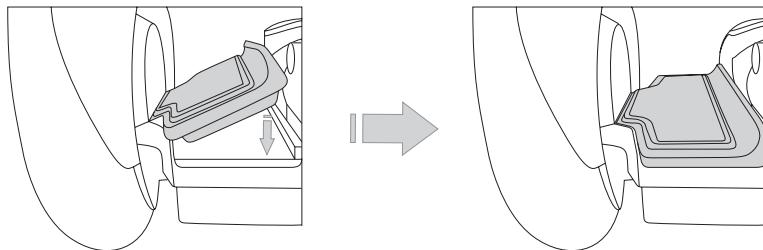

Figure 41. Removing and Installing the Mats
3. Place a Mat on the Powerbase. See **Figure 41**.